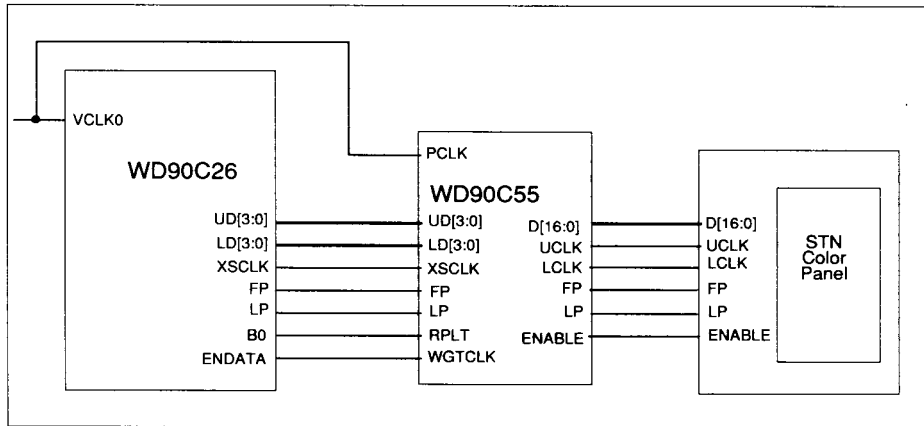

FIGURE 6-19 MULTIPLEXED COLOR STN 8/16 BIT INTERFACE
- Multiplexed Color Stn 8/16 Bit Interface (Figure 6-19)